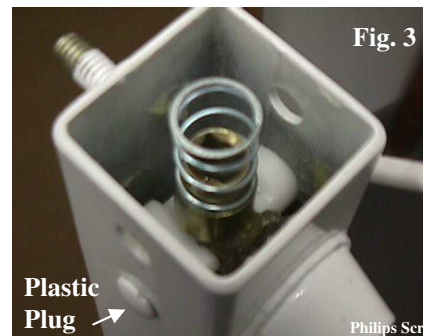

Fig. 3
3. Install drive coupler and spring as shown in (Fig. 3).